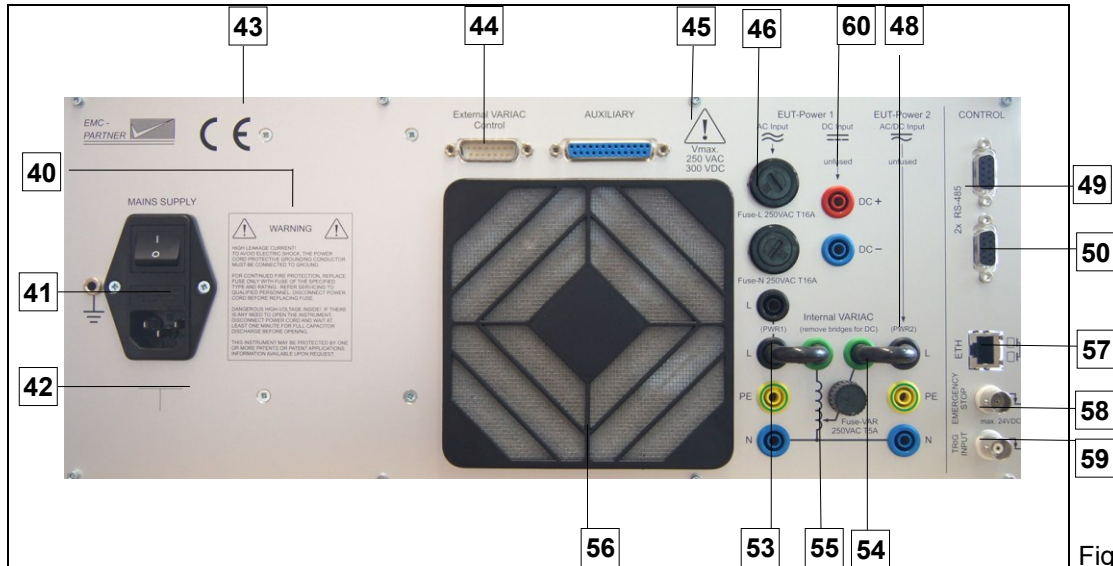

Fig. 4.2
4.1.2.4 Button PWR2 (25)
With this button the EUT power is turned on from the variac. When the power of the EUT is feed from input (48) (see Figure 4.2) e.g. internal or external variac, this status will be indicated by the LED (25) .
4.1.2.5 High voltage pulse output EFT (27)